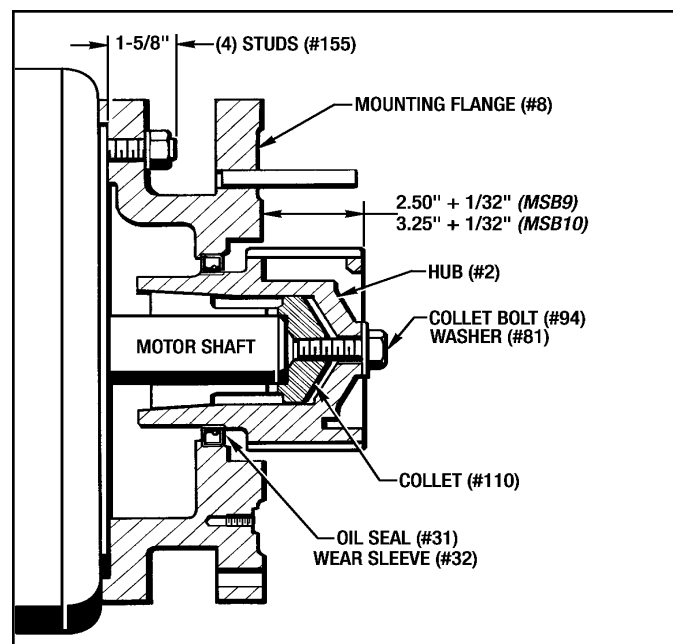

Figure 3.4 - Installing Mounting Flange (#8) and Positioning The Hub (#2) and Collet (#110) on The Motor Shaft
5. Screw the (4) Studs (#155) in to the motor mounting face. Leave approximately 1-5/8" of exposed thread from the motor face. **Use Blue Loctite #242.**
6. Attach the Mounting Flange (#8) to the motor mounting face with the (4) Hex Nuts (#392) and (4) Lockwashers (#168). **Torque to 120 Lb. Ft.**
9. Position the Hub (#2) as shown in *Figure 3.4*. Measure the distance from the end of the Hub (#2) to the face of the Mounting Flange (#8). This distance should be **2.50" + 1/32"** for the MSB9 and **3.25" + 1/32"** for the MSB10. Apply **Blue Loctite #242** and tighten the Collet Locking Bolt (#94) enough to take out excess clearance in the Hub/Collet Assembly but still able to move it.